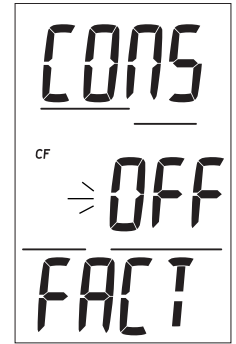

Fig. 33 - Set CF
Set Conservative Factor (CF), information includes (Fig. 33):